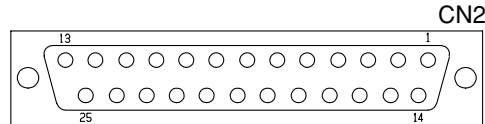

Fig.25
- (8) External Input/Output Connector CN2 Pin Arrangement (Fig.25)